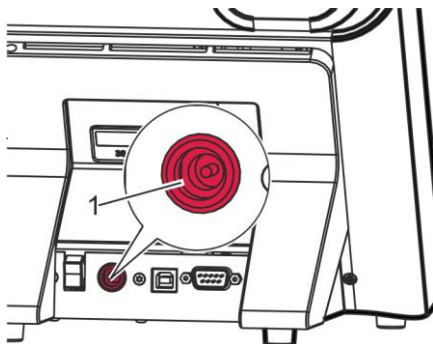

Fig. 15: Mains connection
2. Insert power supply unit adapter in the main connection (Fig. 15/1).